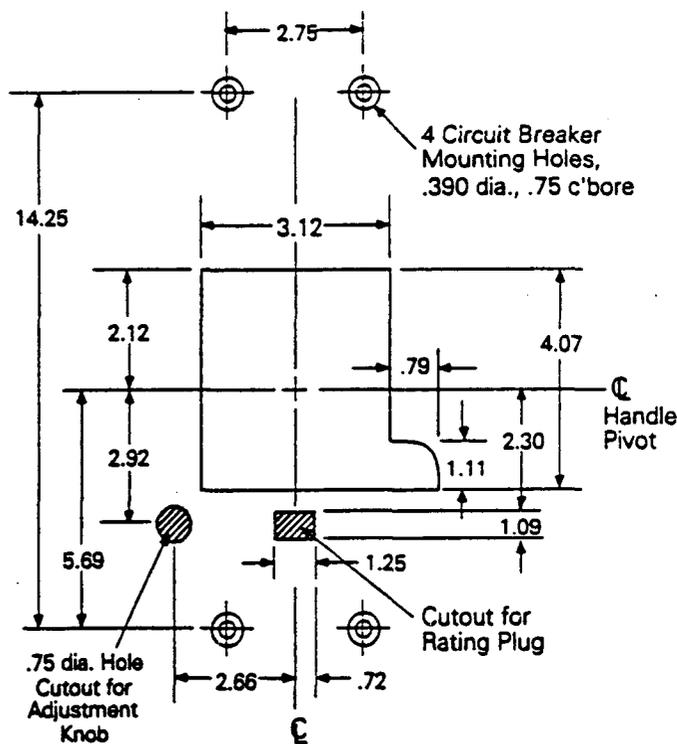

Figure 1. Mounting hole and escutcheon cutout pattern.
4. **Drill and tap all mounting holes and make any necessary front-panel escutcheon cutouts, as shown in Figure 1.**